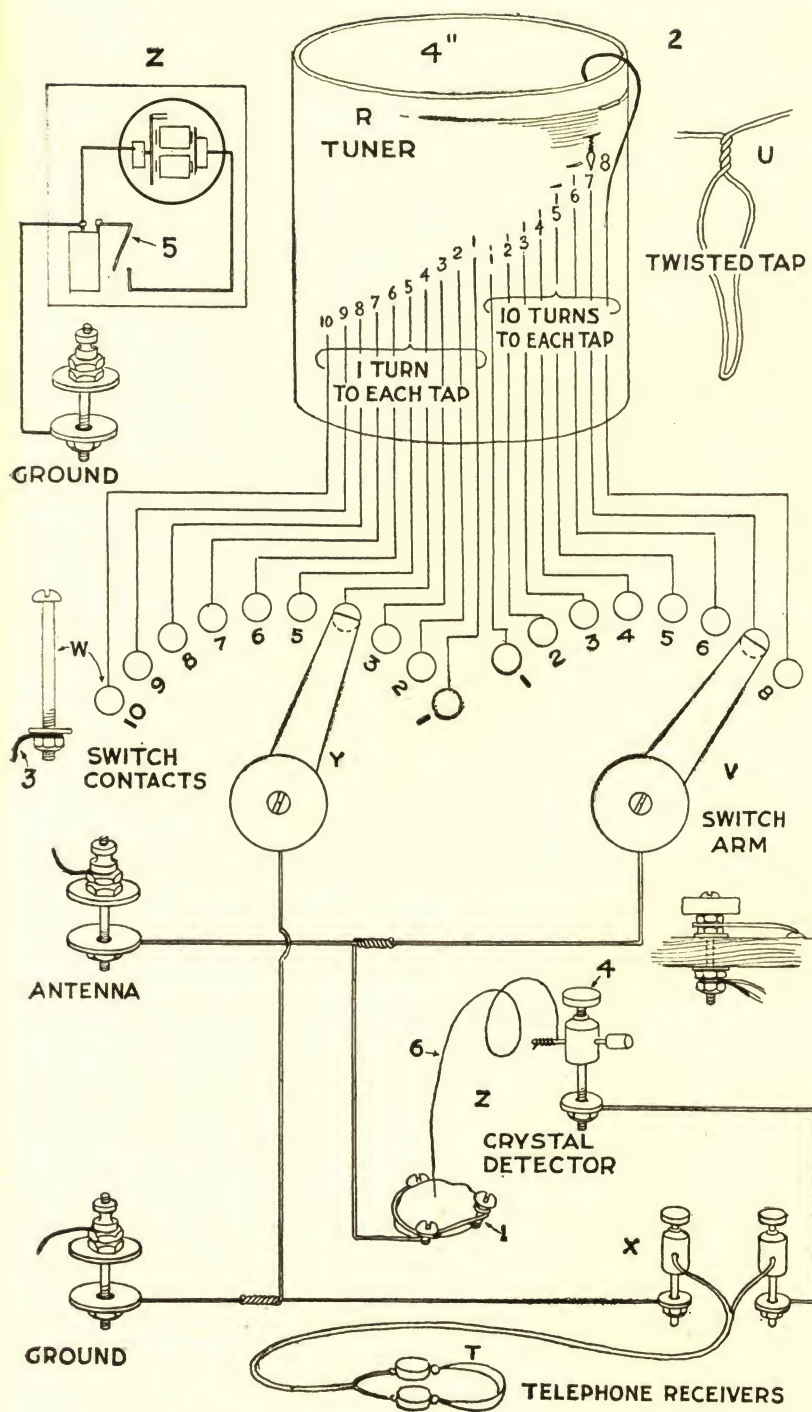
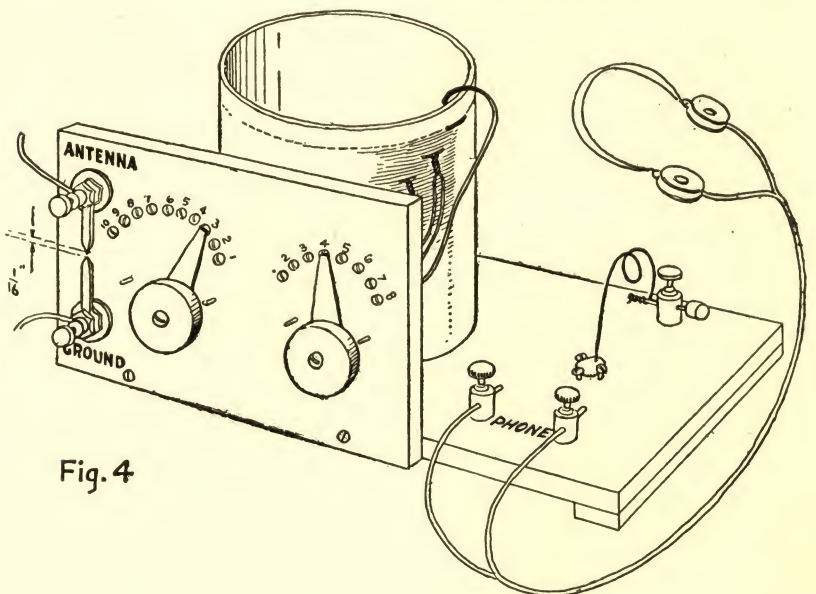

Fig. 3
Fig. 4
through the porcelain tube (O) to the binding post on the receiving set marked "antenna," in Figure 4.
Q is a wire leading from the binding post in Figure 4 to a water pipe, the radiator of a heating system or some other metallic conductor to the ground. If no such metallic conductors are available the wire should be run out of doors through a second porcelain tube similar to (O) and attached to a ground rod which must be a different one from that used as a "ground" for the lightning switch. To get good results from the receiving set this "ground" must be of the best type and if the soil near the house is dry metal pipes must be driven a sufficient depth to encounter moisture. In sandy soil this may be 10 feet, while in clay soil a depth of 3 feet often furnishes a satisfactory "ground." The casing of a drilled well, if it is near the window will give a satisfactory "ground."
The piece of crystal (Z, Fig. 3) or the detector will have to be purchased as will the telephone receivers. The tuner and some of the accessories can be made at home.
The tuner (R, Fig. 3) is a piece of cardboard or other non metallic tubing about 4 inches in diameter with turns of double cotton covered
The crystal detector (Z, Fig. 3) is made up of a tested crystal—a galena crystal is generally more satisfactory for the novice—three brass wood screws, a short piece of copper wire, a nail, a set-screw type of binding post and a wood knob or cork. The crystal is held in place on the wood base by three brass wood screws as in 1, Fig. 3. A bare copper wire may be wrapped tightly around the three brass screws for contact. Better still the crystal may be mounted in a metal crystal holder which can be purchased for a few cents. The crystal should not be handled with the fingers. The crystal may be inserted in a small metal cup or a hole bored in the base by the use of an alloy of low melting point, such as "Woods' Metal," which melts in hot water.
The telephone receivers (T, Fig. 3) may be any of the standard commercial makes having a resistance of between 2,000 and 3,000 ohms. It is advisable for good results to use a pair of receivers connected by a head band, that is a double telephone head set. These will cost more than the expense of all the rest of the station combined, but will give satisfactory results. However, a single receiver may be used by those desiring to cut the cost to the minimum. Equally satisfactory results, however, must not be expected.
To make the tuner (R, Fig. 3) take a piece of cardboard tubing four inches in diameter, and about one-half pound of No. 24 or 26 double cotton covered copper wire. Then punch two holes in the tube half an inch from one end (see 2, Fig. 3) and weave the wire through these holes so that the end of the wire will be anchored firmly. One foot of the wire should be left free for connections. Then start to wrap the main part of the wire around the tube, making a single layer. It should be wrapped tightly as thread is wrapped on a spool,
When ten complete turns have been wound on the tube the first tap is taken off. This tap is made by forming a loop of the wire six inches in length, twisting it at the point where it touches the tube as shown at U, Fig. 3. After ten more turns have been taken a second tap should be taken off in the same way. The second tap should not be placed directly under the first, but at a slight distance farther along on the turn. Proceed in this manner, taking off a tap after each ten and a fraction turns until, six twisted taps have been taken off. Then continue to wind as before, but take off a tap for each single turn around the tube until ten turns have been wound, staggering them as before so that no tap is directly below the one on the preceding turn. After the last turn has been wound punch two holes in the tube as at the start and weave the end of the wire through them, leaving twelve inches at this end also for connections. After winding the tuner as described dip it in hot paraffin to exclude moisture.
The upright panel, shown in Figure 4, consists of a piece of wood approximately half an inch thick, and large enough to provide for two switch arms with their switch contacts and the binding posts for the "lead in" and ground wires. Positions of the binding posts, switch arms and switch contacts should be laid out as shown in Figure 4 and holes should then be drilled in the wood to provide for them.
The switch arms shown at V and Y in Figure 3 may be purchased complete for a few cents.
The switch contacts, shown at Figure 3, may be purchased complete or may be made of brass bolts equipped with one washer each. They may also be constructed from nails driven through the panel with an individual tap fastened under the head or soldered to the projection of the nail through the panel. The switch contacts should be just close enough to prevent the switch arm from dropping between them, but should be far enough apart so that the switch arm can be set to touch one only at a time.
The telephone binding posts should be of the set-screw type shown in X, Figure 3. These are readily purchased complete. These parts should be mounted on a second larger board which will serve as the base of the receiving set. The crystal may be fastened to the base by three wood screws as already shown in 1, Figure 3. The upright panel should be screwed to the edge of the base opposite the tuner as shown in Figure 4.
With the various parts all mounted as shown in Figure 4 the next step is to connect each tap to the corresponding switch contact and attach the other necessary wires. Scrape the cotton insulation from the loop ends of the sixteen twisted taps as well as from the ends of the two single wire taps passed through the holes punched in the cardboard tube. The bare ends of these wires should be fastened in order to the proper switch contacts shown by corresponding numbers in Fig. 3. Care should be taken not to cut or break any of the looped taps. The portion of the wire from which the insulation has been scraped should be attached to the end of the switch contact by binding it between the washer and the nut as shown at 3, Fig. 3.
(Fig. 3) to the back of the left-hand switch-arm bolt (Y) and thence to beneath the left-hand binding post marked X, Fig. 3. A wire is then run from underneath the right-hand binding post at X, Fig. 3 to underneath the binding post 4, Fig. 3 which forms a part of the crystal detector.
One end of a piece of No. 24 bare copper wire about  $1\frac{1}{2}$  to  $2\frac{1}{2}$  inches long should then be twisted tightly around a nail which has been clamped in the set screw binding post at 4, Fig. 3. The other end of the wire or "cat-whisker" should rest by its own weight on the crystal at 1, Fig. 3. The bare copper wire which was wrapped tightly about the three brass wood screws holding the crystal in place is led to and fastened at the rear of the right-hand switch-arm bolt V, Fig. 3, thence to the upper left-hand binding post marked "antenna" in Fig. 3.
The test buzzer used in finding the most sensitive point of the crystal is a miniature local transmitting set and may be purchased complete. When connected with the receiving set as shown at Z, Figure 3, the current produced by the buzzer will be converted into sound by the telephone receivers and the crystal, the loudness of the sound depending on what part of the crystal is in contact with the fine wire.
To find the most sensitive spot connect the test buzzer to the receiving set as shown at Z, Figure 3, close the switch (5, Fig. 3) and if necessary adjust the buzzer armature so that a clear note is emitted by the buzzer, set the right-hand switch-arm on contact point No. 8, fasten the telephone receivers to the binding posts marked phones (Fig. 4), close the set screw of the binding post slightly and change the position of the fine wire (6, Fig. 3) to several positions of contact with